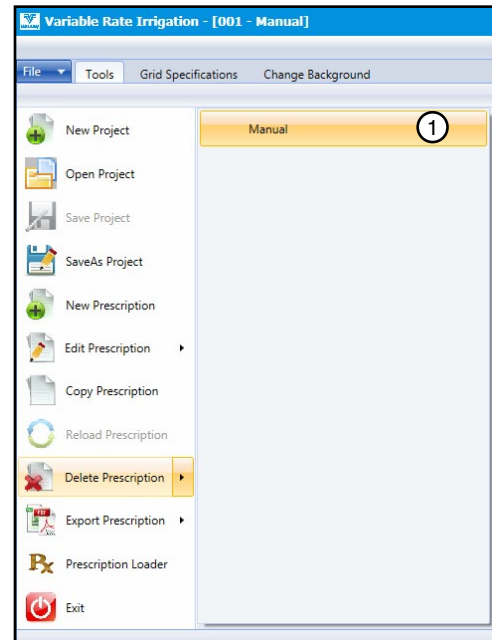

Figure 36-1 1. Prescription
2. Select **Delete Prescription** in the VRI drop-down menu, and click on the name of the prescription in the right-hand column. See Figure 36-1.